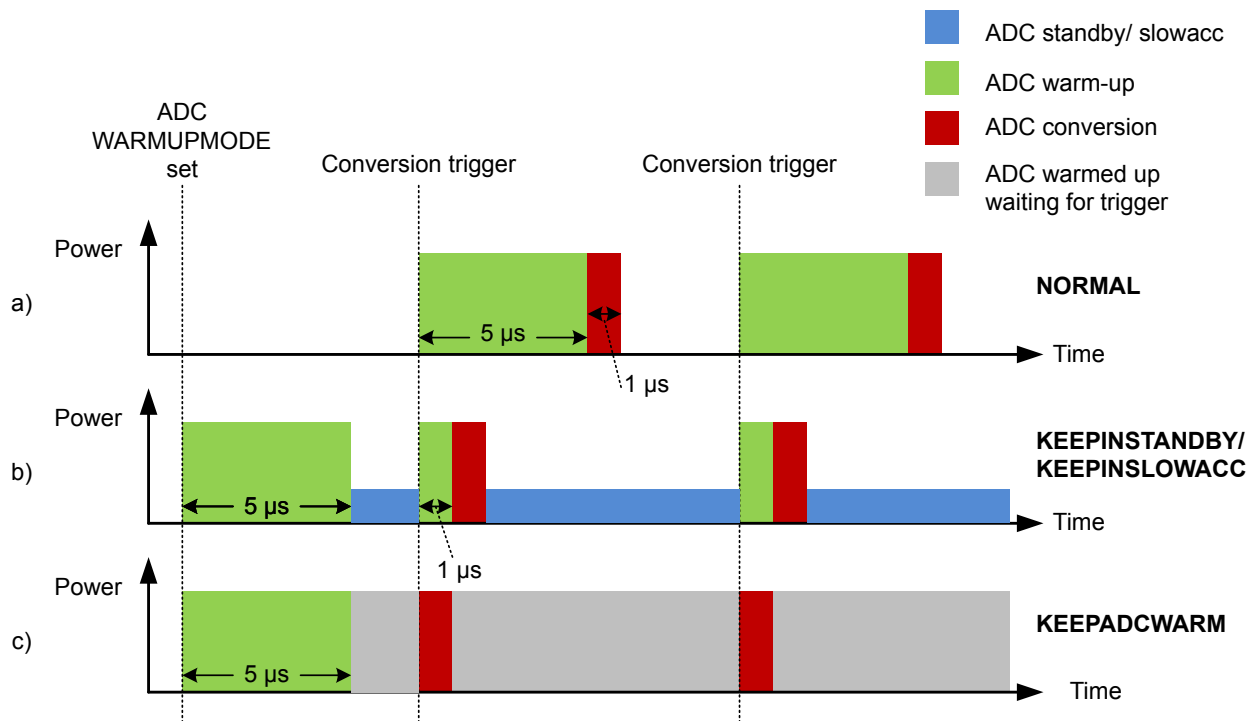

Figure 26.4. ADC Analog Power Consumption With Different WARMUPMODE Settings
Normally, the ADC will be warmed up only when samples are requested and is shut off when there are no more samples waiting. However, if lower latency is needed, configuring the WARMUPMODE field in ADCn_CTRL allows the ADC and/or reference to stay warm between samples, reducing the warm-up time or eliminating it altogether. Figure 26.4 ADC Analog Power Consumption With Different WARMUPMODE Settings on page 870 shows the effects on analog power consumption in scenarios using different WARMUPMODE settings.
- **NORMAL:** This is the lowest power option for general-purpose use and low sampling rates (below 35 ksps). The ADC and references are shut off when there are no samples waiting. The ADC does not consume any power when it is shut down. A 5 μ s warmup time will be initiated prior to every conversion. Figure a in Figure 26.4 ADC Analog Power Consumption With Different WARMUPMODE Settings on page 870 shows this mode.
- **KEEPINSTANDBY:** This mode is suitable for infrequent sampling of lower impedance inputs, and is the lowest power option for sampling rates between about 35 and 125 ksps. It may also be useful for lower sampling rates where latency is important. The reference selected for scan mode is kept warm, but the ADC is powered down. The ADC will initiate a 1 μ s warmup period before a conversion begins. Because the reference is kept warm, the ADC will consume a small amount of standby current when it is not converting. Figure b in Figure 26.4 ADC Analog Power Consumption With Different WARMUPMODE Settings on page 870 shows this mode.
- **KEEPADCWARM:** This mode provides the lowest latency and allows for maximum sampling rates. The ADC and reference circuitry remain powered on even when conversions are not in progress. Figure c in Figure 26.4 ADC Analog Power Consumption With Different WARMUPMODE Settings on page 870 shows this mode. This mode consumes the most power, but as soon as a trigger event occurs, the acquisition and conversion begin with no warm-up time. Note that if KEEPADCWARM mode is set and HFXO is selected as the ADC clock source, the HFXO will remain on in EM2.